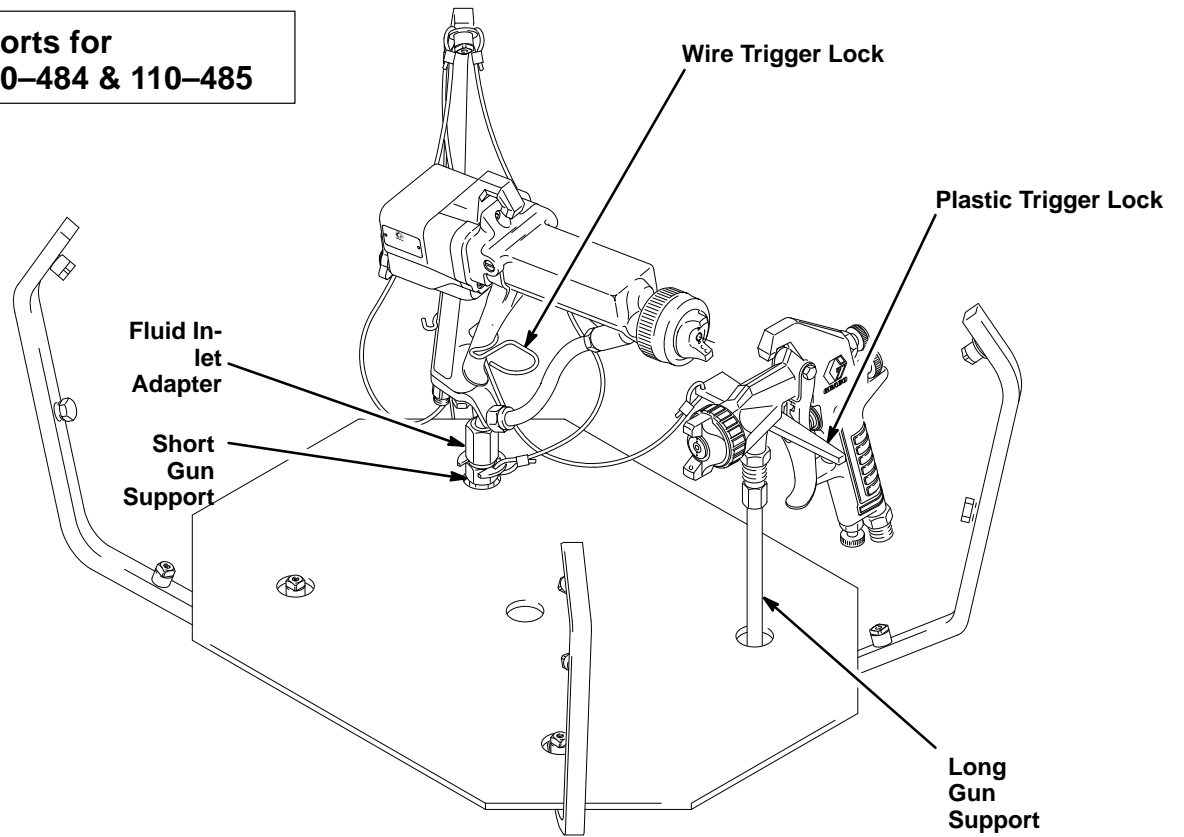

Fig 5
5. **Electrostatic Guns:** To lock the gun trigger in the open position, install the wire trigger lock around the gun handle and trigger as shown in Fig 5 or 6.
Other Guns: To lock the gun trigger in the open position, insert the narrow tip of the plastic trigger lock between the trigger and gun housing as shown in Fig 5 or 6.
Set the gun fluid inlet over the long gun support as shown in Fig 5 or 6.
3. Place the gun in the gun washer, setting the fluid inlet adapter over the short gun support as shown in Fig 5 or 6.